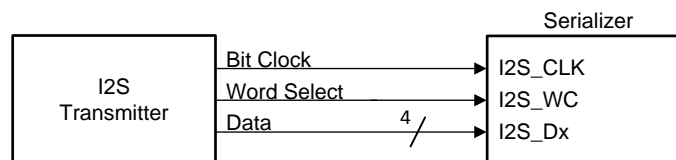
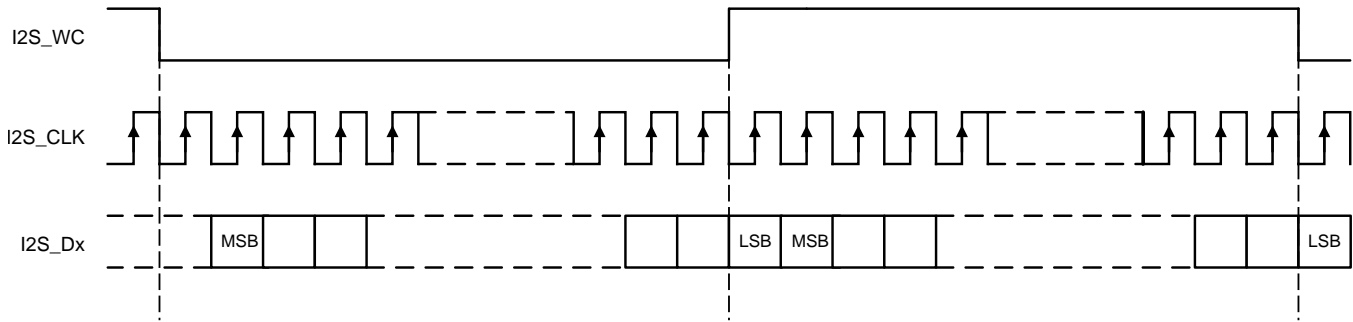

Figure 15. I2S Connection Diagram
Figure 16. I2S Frame Timing Diagram
The DS90UB949A-Q1 serializer features six I2S input pins that, when paired with a compatible deserializer, supports 7.1 high-definition (HD), surround sound audio applications. The bit clock (I2S_CLK) supports frequencies between 1 MHz and the lesser of IN_CLK/2 or 13 MHz. Four I2S data inputs transport two channels of I2S-formatted digital audio each, with each channel delineated by the word select (I2S_WC) input. Refer to Figure 15 and Figure 16 for I2S connection diagram and timing information.